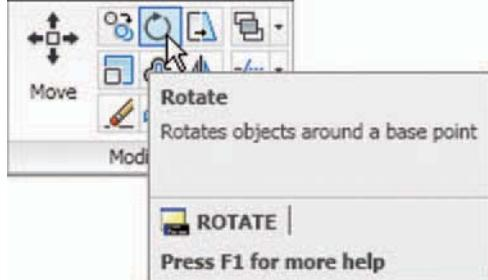

Fig. 5.26 The **Rotate** tool icon from the **Home/Modify** panel
2. Call **Rotate** – left-click on its tool icon in the **Home/Modify** panel (Fig. 5.26), pick its tool icon from the **Modify** toolbar, pick **Rotate** from the **Modify** drop-down menu, or enter **ro** or **rotate** at the command line. The command line shows: